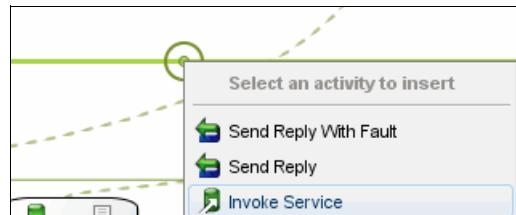

Figure 10-67 Insert web service invoke activity
- Click the CommonErrorHandlerWS_Out endpoint, and drag it to the location. Select **Invoke Service**, as shown in Figure 10-67.